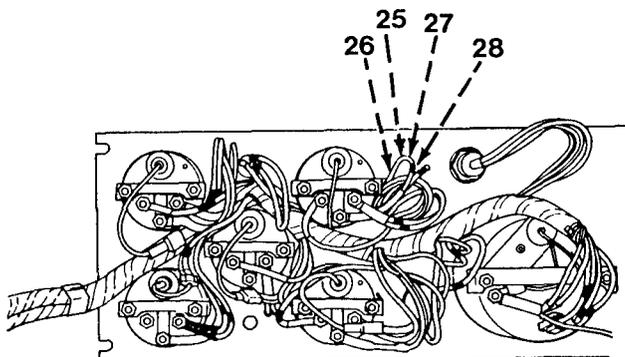

Figure 17-3
12. Installation of axle centering light: Install light bulb (28) in red lens cap and install in socket (25). Install washer (27) and push socket (25) through panel. Install nut (26, Figure 17-3).